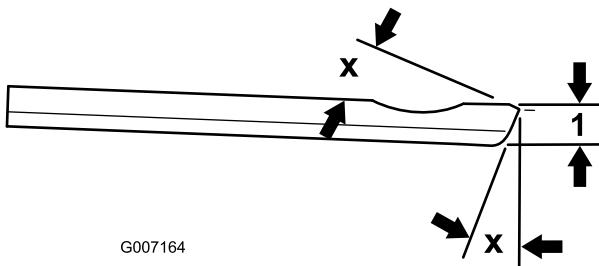

Figure 20
**Note:** The recommended top and front bedknife grind angle is 3 to 7 degrees (Figure 20).